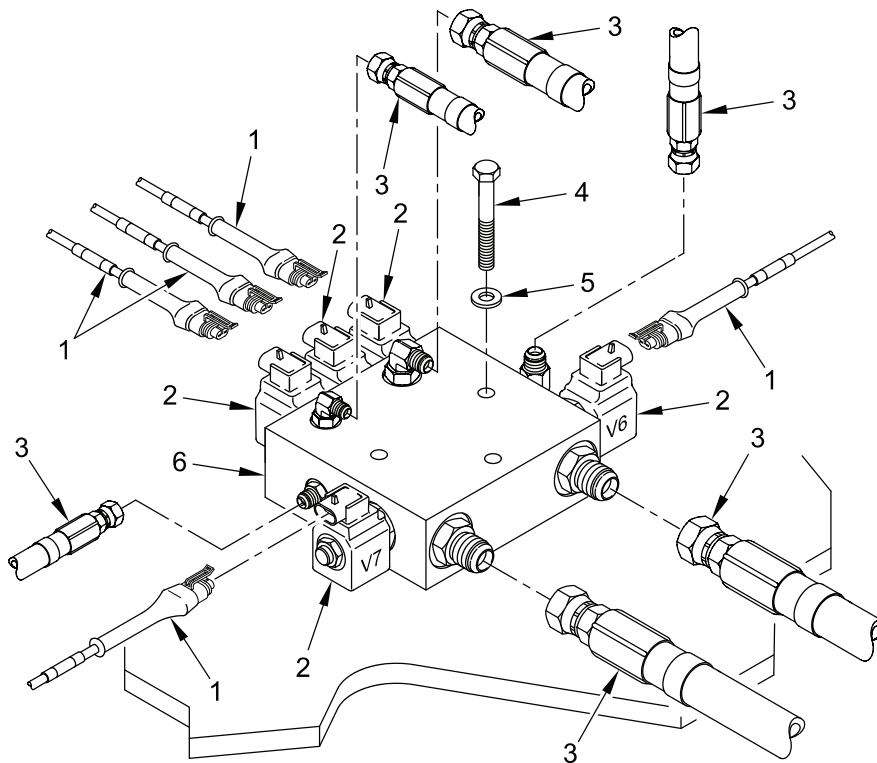

Figure 1. Removing HDC Manifold Assembly
1. Remove wiring harness W3 connectors P4, P6, P7, P8, and P18 (Figure 1, item 1) from five two-way valves V4, V6, V7, V8 and V18 (Figure 1, item 2) on aft manifold (Figure 1, item 6).
2. Remove six hydraulic hoses (Figure 1, item 3) from aft manifold (Figure 1, item 6).
3. Remove three self-locking screws (Figure 1, item 4), three flat washers (Figure 1, item 5), and aft manifold (Figure 1, item 6) from vehicle.